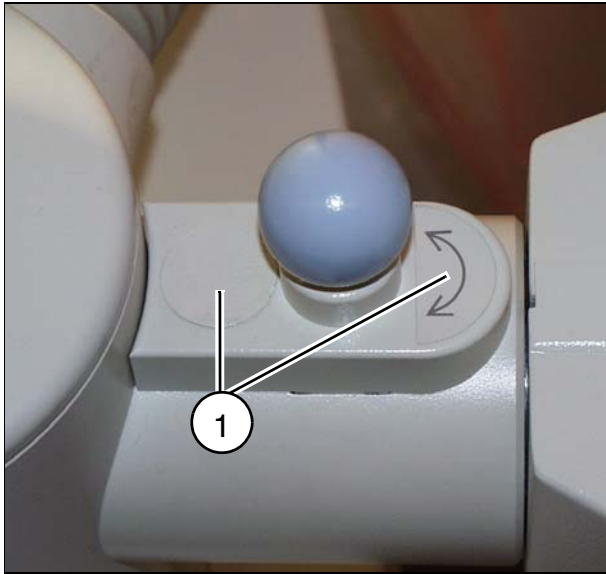

Fig. 39
- Remove the two labels (1/ Fig. 39).